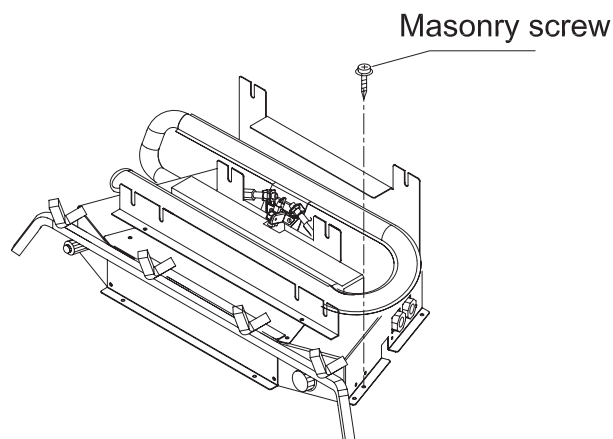

Figure 10 - Attaching Heater Base to Fireplace Floor
10. Attach base assembly to fireplace floor using two masonry screws (in hardware package) (see Figure 10).